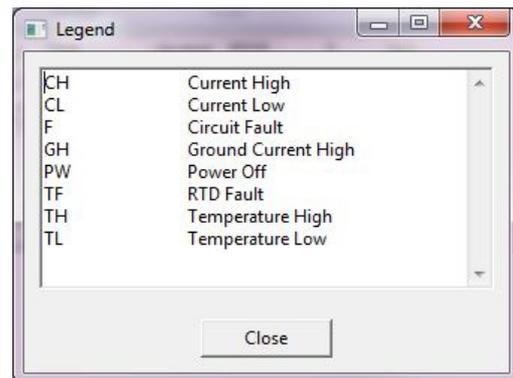

Figure 10: The Alarm List Legend
6. The meaning of the alarm codes are explained in Legend under the Help menu (Figure 10).